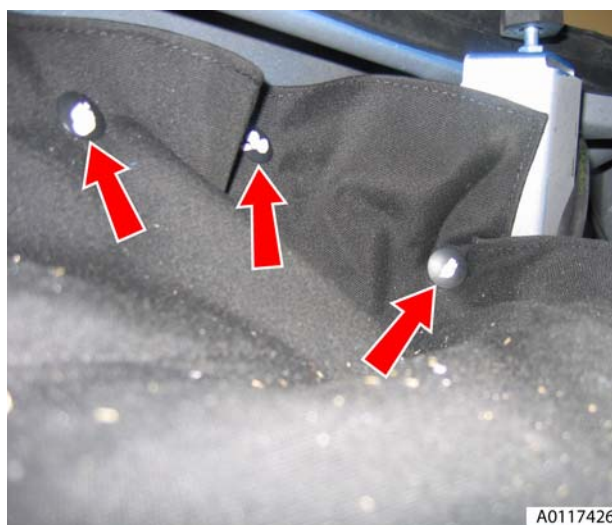

Figure 3
6. Release velcro from around tonneau cylinder and remove trim clips (x3) (see Figure 3).